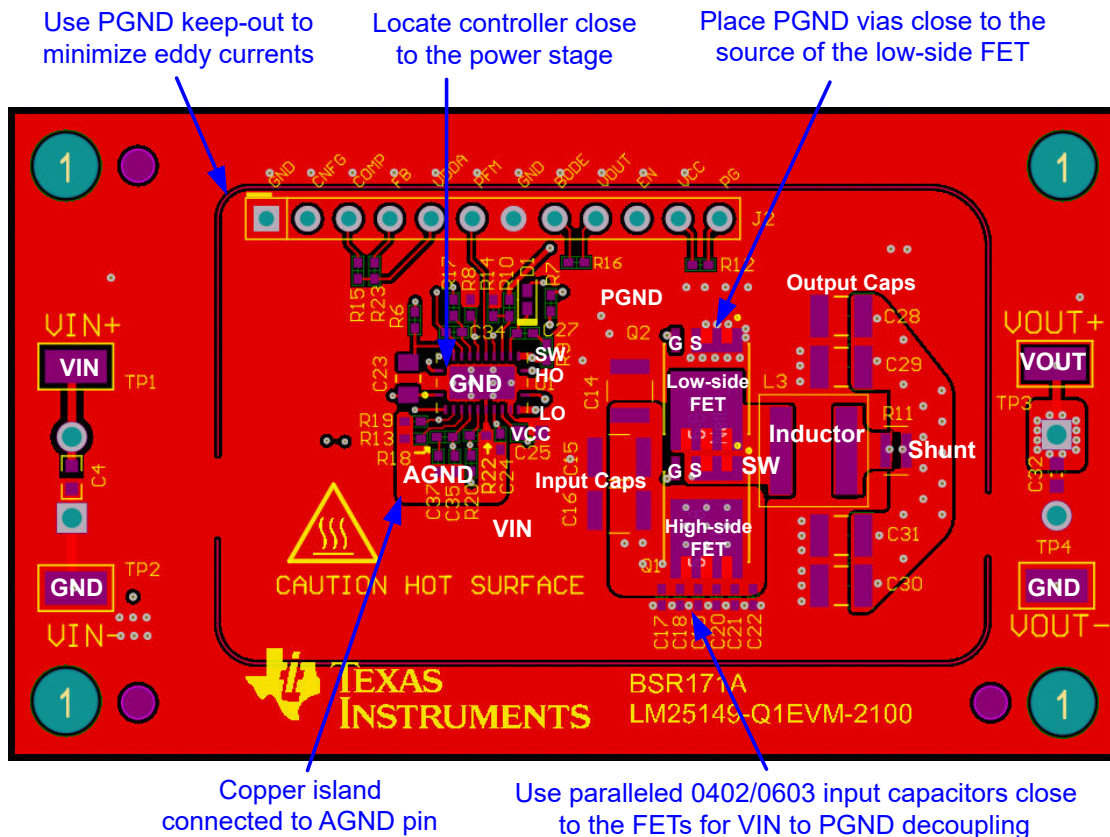

Figure 11-2. PCB Top Layer – High Density, Single-sided Design
Figure 11-2 shows a single-sided layout of a synchronous buck regulator with discrete power MOSFETs, Q1 and Q2, in SON 5-mm × 6-mm case size. The power stage is surrounded by a GND pad geometry to connect an EMI shield if needed. The design uses layer 2 of the PCB as a power-loop return path directly underneath the top layer to create a low-area switching power loop of approximately 2 mm². This loop area, and hence parasitic inductance, must be as small as possible to minimize EMI as well as switch-node voltage overshoot and ringing.
- Make the ground connections to the LM25148-Q1 controller as shown in Figure 11-2. Create a power ground directly connected to all high-power components and an analog ground plane for sensitive analog components. The analog ground plane for AGND and power ground plane for PGND must be connected at a single point directly under the IC – at the die attach pad (DAP).